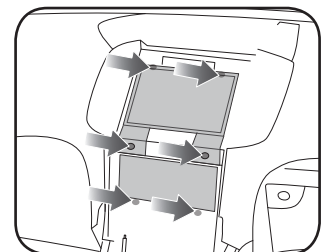

Fig. 1.8
8. Remove the four 7mm screws securing the radio display. Remove the radio display and disconnect the wiring harness, USB cable, and antenna connections. Remove the two 7mm screws at the bottom of the audio control module. Disconnect the wire harnesses. Remove the audio control module. (Fig. 1.8)